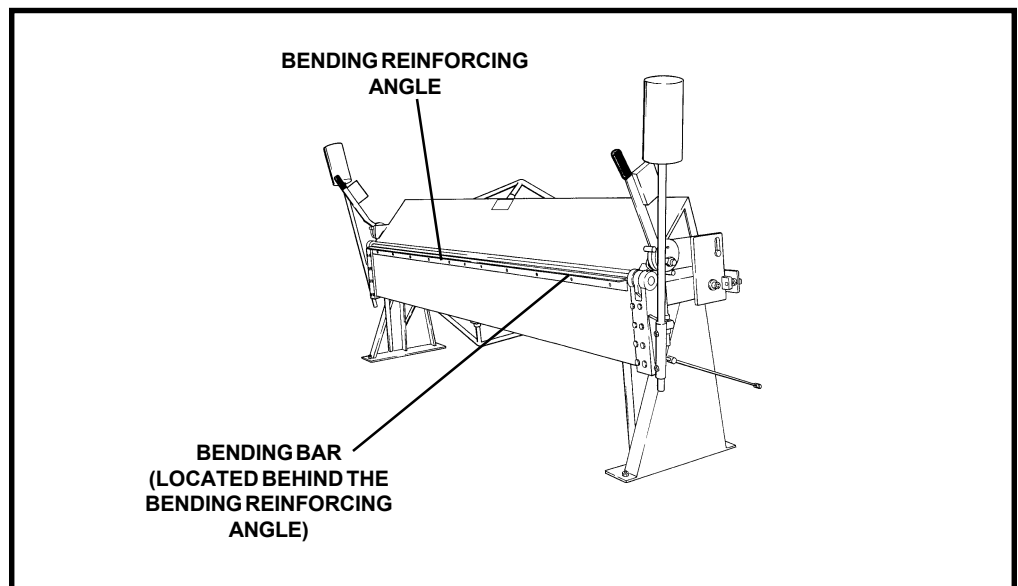

Figure 5. Removal of the Bending Reinforcing Angle and the Bending Bar.
1. Support the bending reinforcing angle and remove retaining screws. Withdraw the angle from the machine (see Figure 5).
2. Support the bending bar and remove retaining screws. Withdraw the bar from the machine (see Figure 5).